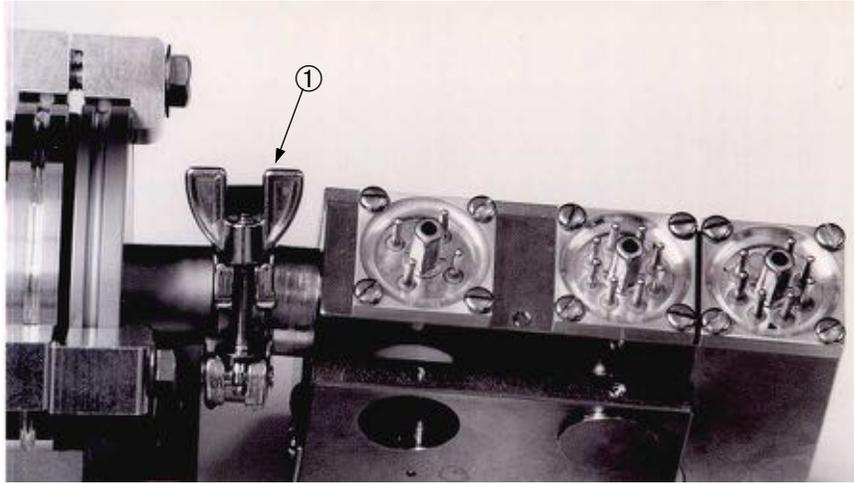

Figure 5-2 KF-25 Quick Clamp
3. Remove the KF-25 (ISO NW-25) quick clamp ① to disconnect the spectrometer tube from the Turbo Spec Tube Assembly (Figure 5-2).